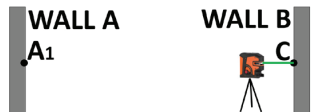

Figure 17
3. Set laser next to Wall B and adjust beam to height C. (Figure 17)